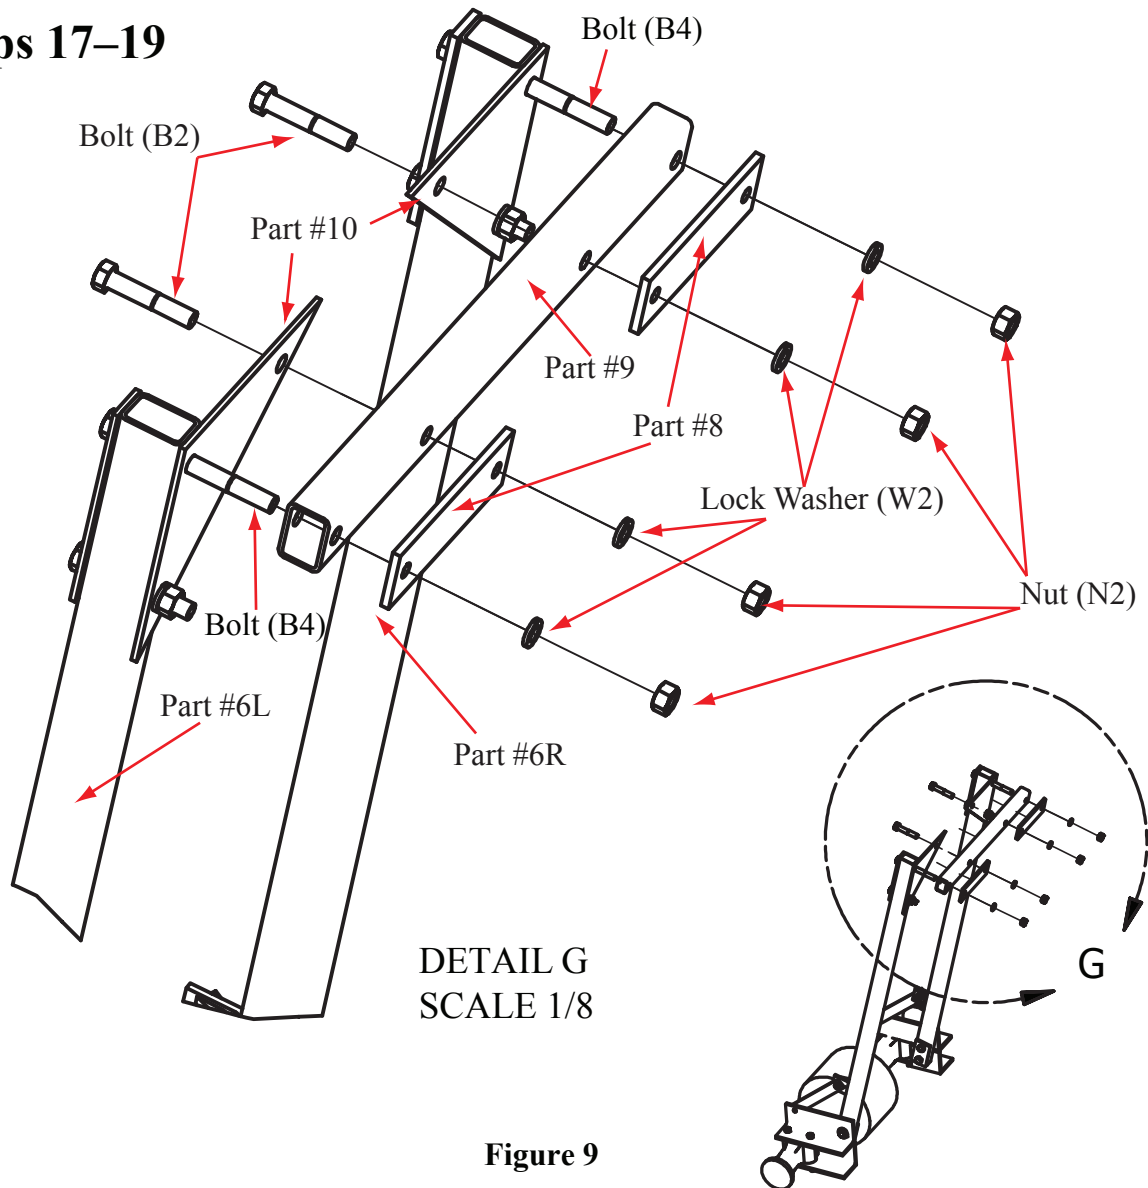

Figure 9
Step 19. Insert bolts (B2) through the remaining inside holes of the corner plates (#10), the cross bar (#9), and the cross bar backing plate (#8). Create a snug fit with a lock washer (W2) and a nut (N2). Snug the connections made in steps 17 and 18. (Figure 9)